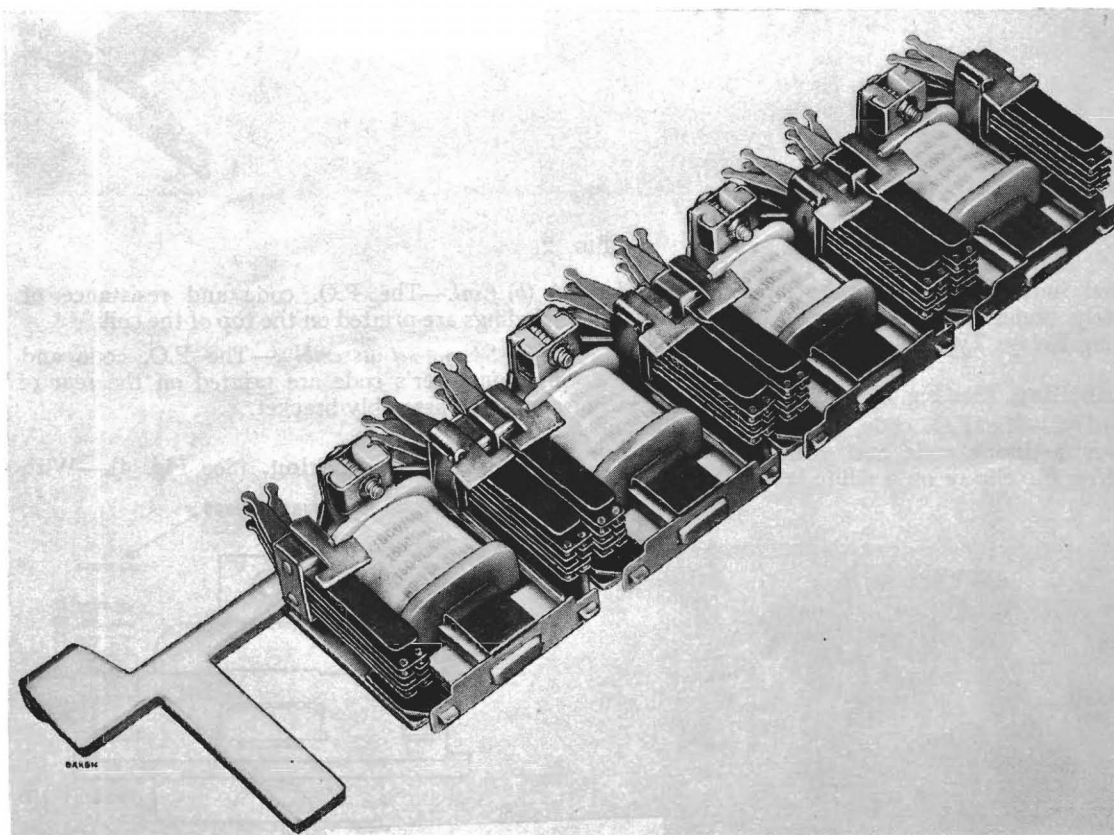
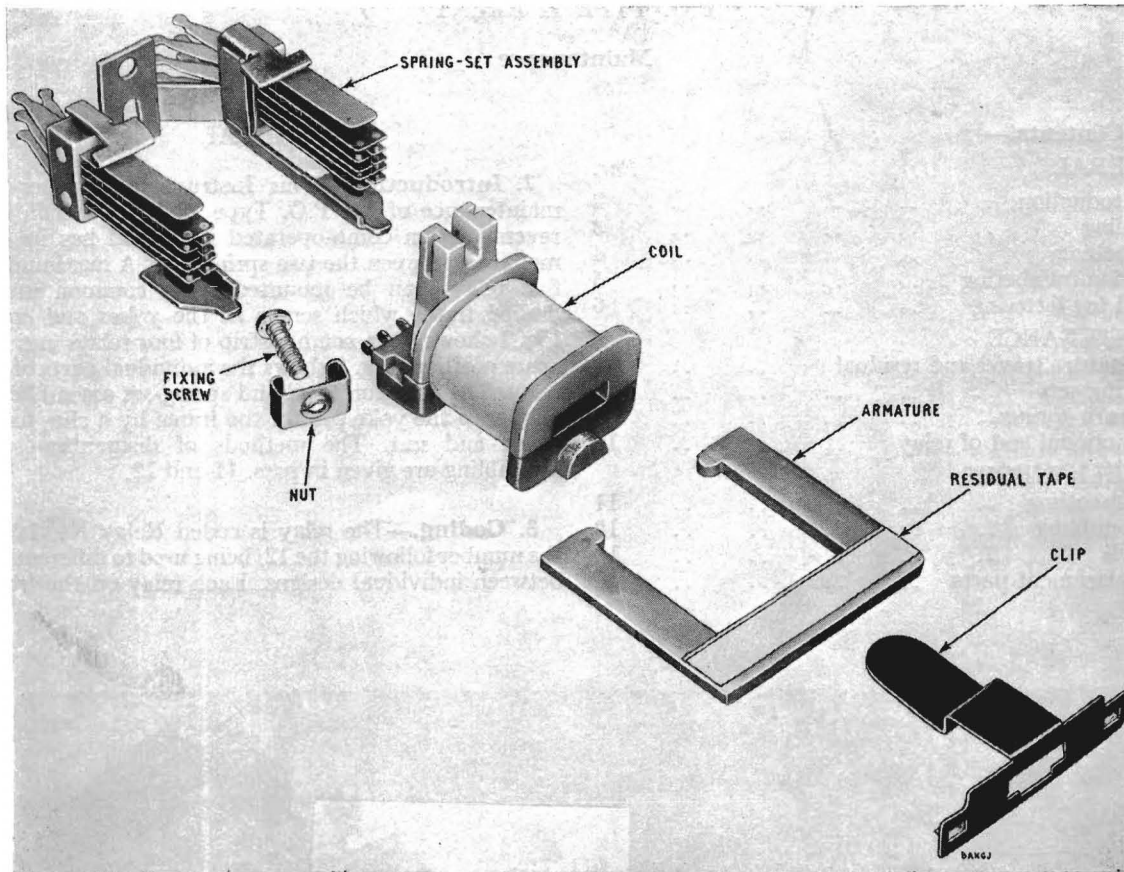

FIG. 1
FIG. 2
2. Introduction.—This Instruction describes the maintenance of the P.O. Type 12 Relay which is a reverse action comb-operated relay and has its coil mounted between the two spring-sets. A maximum of five relays can be mounted on a common multi-limbed frame which serves as the yokes and cores. Fig. 1 shows the assembly strip of four relays and one spare position. Fig. 2 shows the individual parts of the relay. The armature, coil and spring-set assembly are held onto the yoke part of the frame by a clip, fixing screw and nut. The methods of dismantling and assembling are given in pars. 11 and 12.